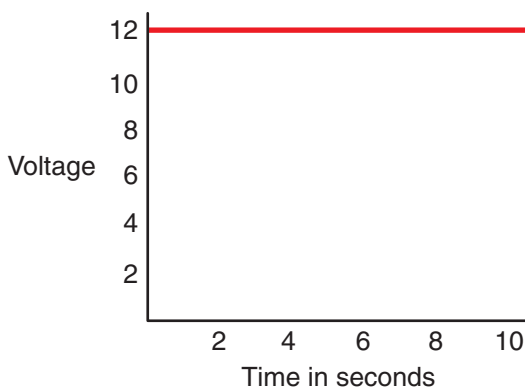

Figure 13-12 A DC voltage level remains constant over time.
Direct current (DC) is the flow of electrons in one direction only. A DC voltage reading is non-varying and on a power equipment engine is usually produced by a battery. For example, if we were to graph a DC voltage of 12 volts over a period of time, the graph would appear as shown in Figure 13-12. Whatever the voltage